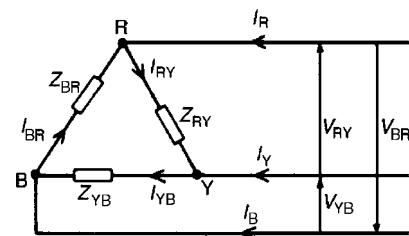
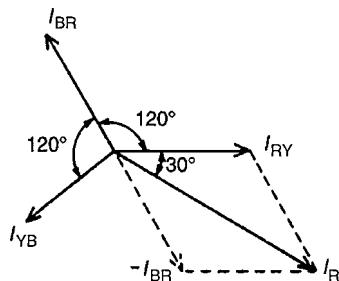

Figure 20.10
Figure 20.11
- A **delta (or mesh) connected load** is shown in Fig. 20.10 where the end of one load is connected to the start of the next load.
- From Fig. 20.10, it can be seen that the line voltages V_{RY} , V_{YB} and V_{BR} are the respective phase voltages, i.e. for a delta connection:
- Using Kirchhoff's current law in Fig. 20.10, $I_R = I_{RY} - I_{BR} = I_{RY} + (-I_{BR})$ From the phasor diagram shown in Fig. 20.11, by trigonometry or by measurement, $I_R = \sqrt{3} I_{RY}$, i.e. for a delta connection: